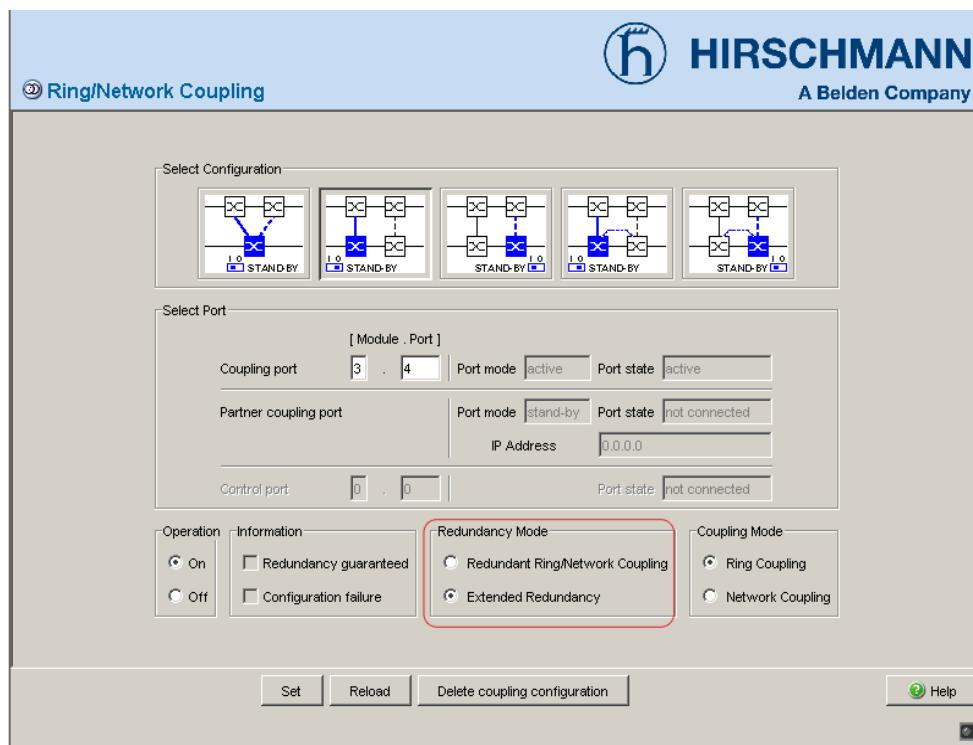

Figure 17: Selecting the redundancy mode
- In the “Redundancy Mode” frame, select (see fig. 17)